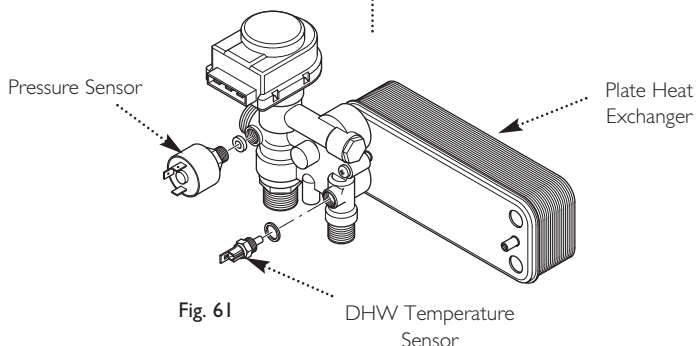

Fig. 61
13.9 Water Pressure Sensor (Fig. 61)
13.12 DHW Temperature Sensor (NTC) (Fig. 61)